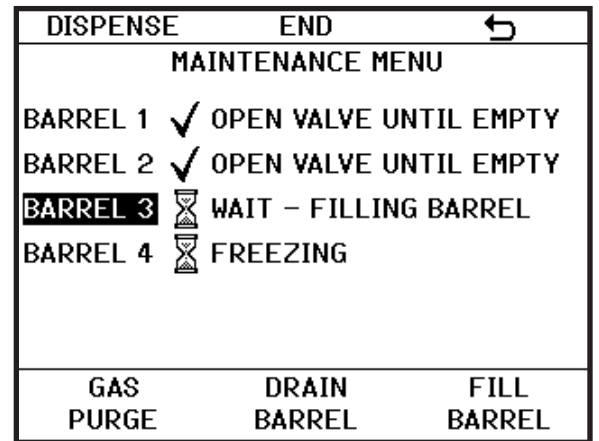

Figure 7.12
**PURGE/FILL/DRAIN BARREL (Figure 7.12)** – Provides three semi-automatic routines that eliminate the need to manually turn solenoids on and off. Follow the on-screen prompts to complete each process. All processes may be terminated at any time by pressing the END button.